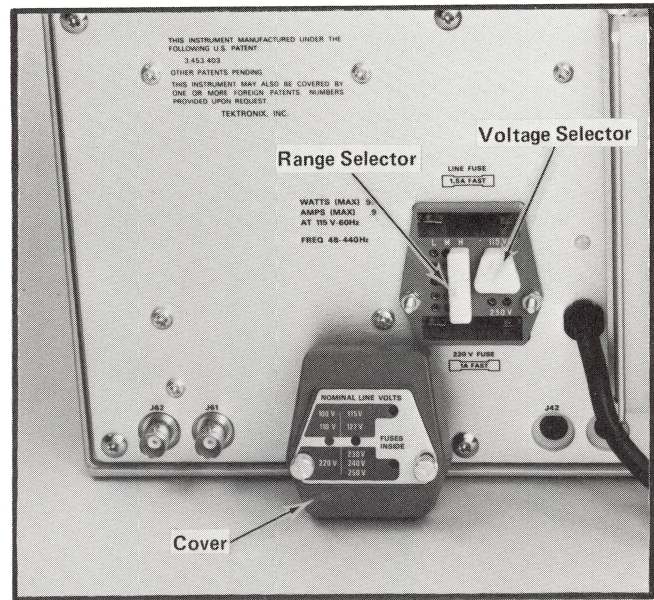

Fig. 2-1. Voltage Selector assembly with cover removed.
3. To convert from 115-volt to 230-volt line range, pull out the Voltage selector, See Fig. 2-1, rotate it 180° (arrow toward 230-volt designation) and plug into the lower set of holes. Change the line-cord power plug to match the power-source receptacle, or use a 115- to 230-volt adapter.
4. To change regulating range, pull out the Range selector bar, Fig. 2-1, slide the bar to the desired position and plug it back in.